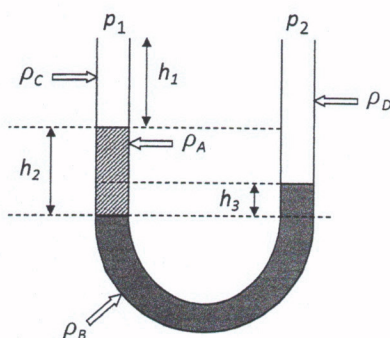

Figure 4.67
16. A manometer is configured as shown in Figure 4.67. A heavy fluid (Fluid B) has been placed in the bottom of the manometer; a light fluid (Fluid A) has been added to the left side only. The left side of the manometer is connected to a process stream in which water (25°C , Fluid C) is flowing; the right side is open to the atmosphere (Fluid D). The manometer is being used to measure the pressure difference $p_1 - p_2$. The density of the two fluids in the manometer are 1.75 and 13.6 g/cm^3 . What is the pressure difference $p_1 - p_2$ in terms of fluid heights and fluid densities? For $h_1 = 2.3 \text{ cm}$, $h_2 = 2.3 \text{ cm}$, $h_3 = 1.0 \text{ cm}$, what is the pressure difference in psi?